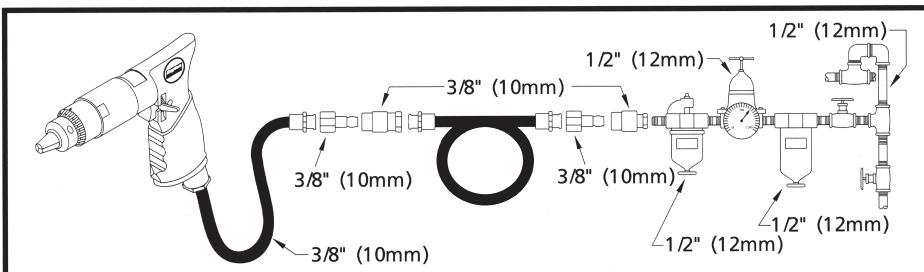

Figure 2 - Air Diagram
1. Supply tool with 90 PSI of clean, dry air. Higher pressure drastically reduces tool life. Connect tool to air line using pipe, hose and fitting sizes shown in Figure 2.
Do not use quick disconnect couplings at tool. See Figure 2 for correct set-up.